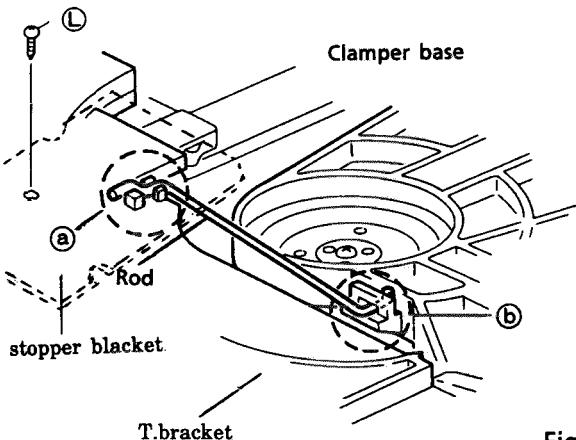

Fig. 20
2. Remove the screw ① holding the stopper bracket.(See Fig.20) ---- (U.S.A and CANADA only)
3. Remove the rod from both ends' hooks which are secured on T.Bracket ④ and clamper base⑤. [See Fig. 20]